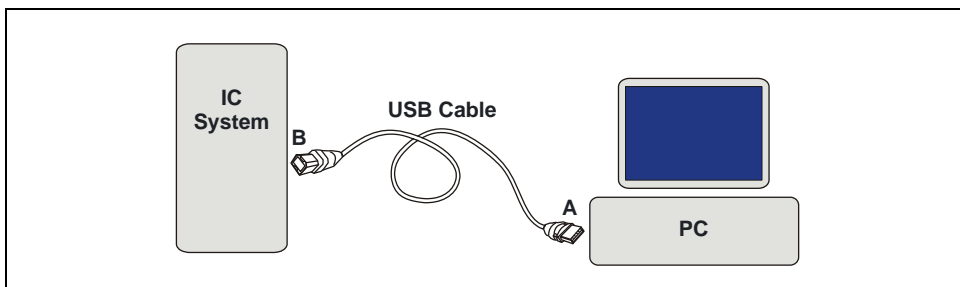

Figure 3-3. Example USB Connections: IC System Connected to the PC
2. Plug the “A” connector of the USB cable into a USB port on the Chromeleon PC (see Figure 3-3).